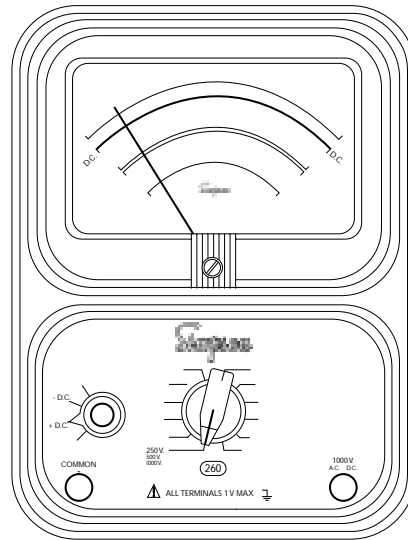

Figure 4-3. Jacks and Switch Positions for Measuring DC Voltage, 0-1000V Range
- Set the function switch at +DC (Figure 4-3).